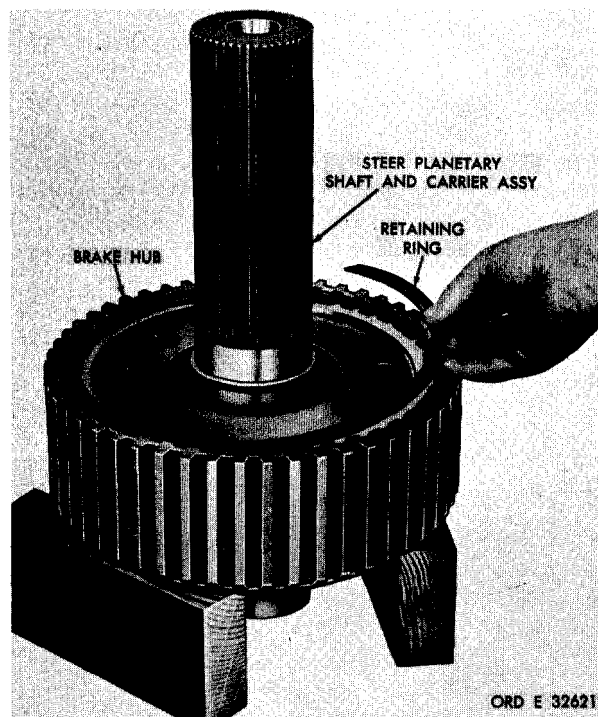

Figure 202. Removing (or installing) steer planetary carrier and shaft retaining ring
a. Remove the retaining ring that retains the steer planetary shaft and carrier assembly in the brake hub (fig. 202).
b. Remove the steer planetary shaft and carrier assembly (fig. 202).
p. Install the steer planetary shaft and carrier assembly (fig. 202).
q. Install the retaining ring that retains the steer planetary shaft and carrier assembly (fig. 202).